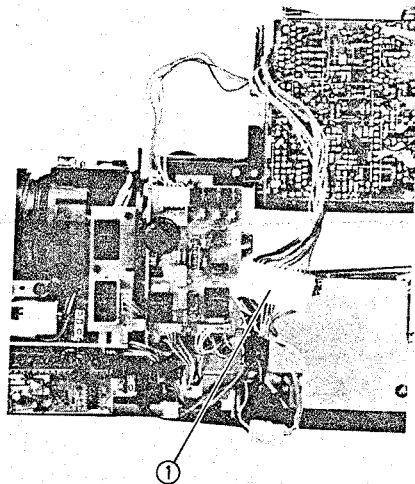

Fig. 2-22 Deflection Circuit Board Removal
(Figs. 2-22, 2-23, 2-24, 2-25, 2-26, 2-27)
1. Disconnect connector CN1501. (See Fig. 2-22)
1. Remove the deflection circuit board. (See Figs. 2-22, 2-23, 2-24, 2-25, 2-26, 2-27)